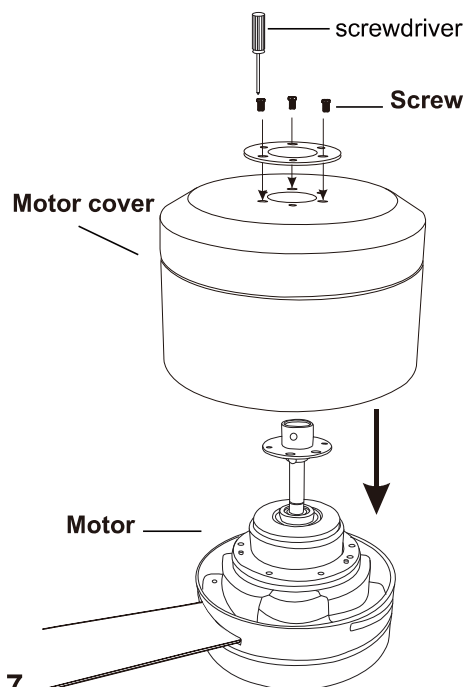

Fig.7
Step 3 Install the motor cover back to the motor and tighten it with screws.(Fig.7)